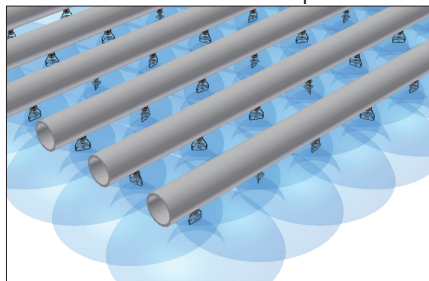

Figure 7. Nozzle Spray Pattern
- Start the recirculating pump. Make sure the fan motor is locked out and tagged out. Check to see if the nozzles are all spraying consistently and producing the spray pattern shown in **Figure 7**.